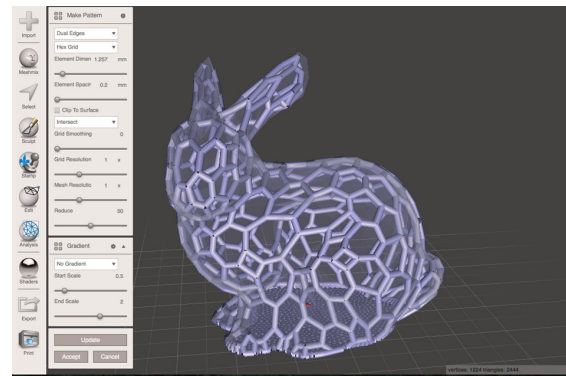
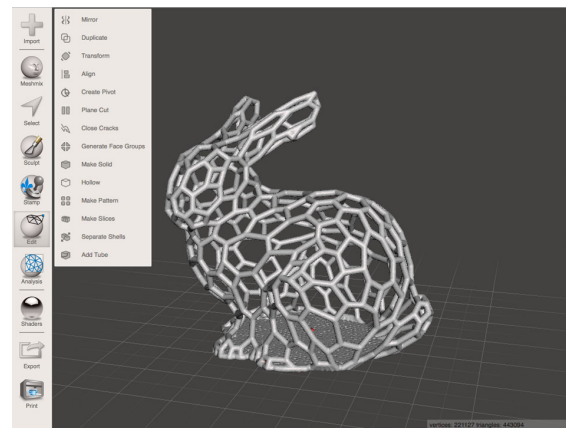

Figure 3-19 Edge bunny
Figure 3-20 Click Accept
2. In the first drop-down menu change Tiled Tubes to Dual Edges. Mesh + Dual Edges generates a pattern inside of the model, which makes a much more complex looking model, as seen in Figure 3-19 and Figure 3-20. Changing the Element Dimensions slider makes thicker or narrower tubes. We have moved ours to 1.257, but if you are printing on a MakerBot-style filament printer you may want to go bigger, otherwise you may have printer problems.